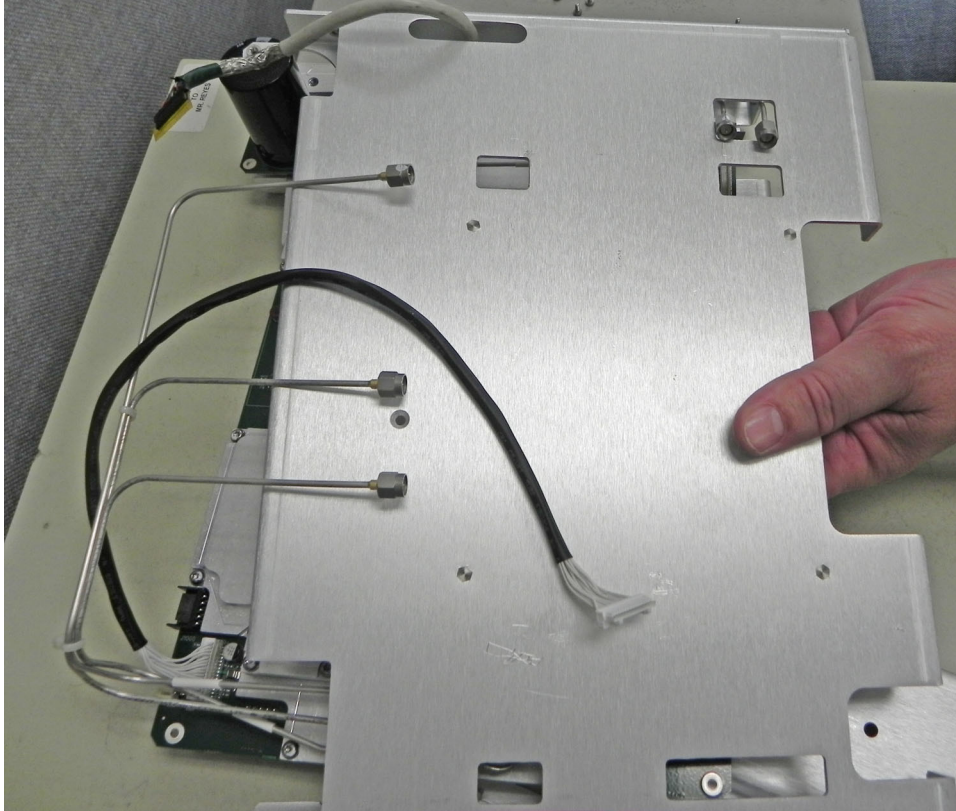

Figure 5-37. Sliding the RF Assembly Cover Plate Off the RF Assembly
16. Note the cable routing, and then carefully remove the cover plate by sliding around the semi-rigid cables (Figure 5-37). Be careful to avoid damaging or bending the semi-rigid cables when removing the plate.